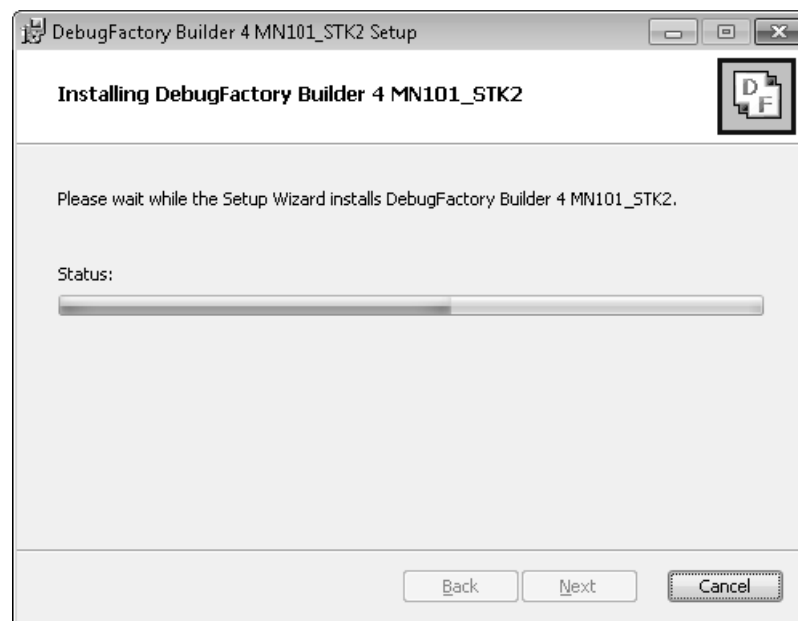

Figure 2.1.7 During installing of DebugFactory Builder for MN101\_STK2
7. The dialog shown in Figure 2.1.7 appears. Wait while DebugFactory Builder for MN101\_STK2 installs.